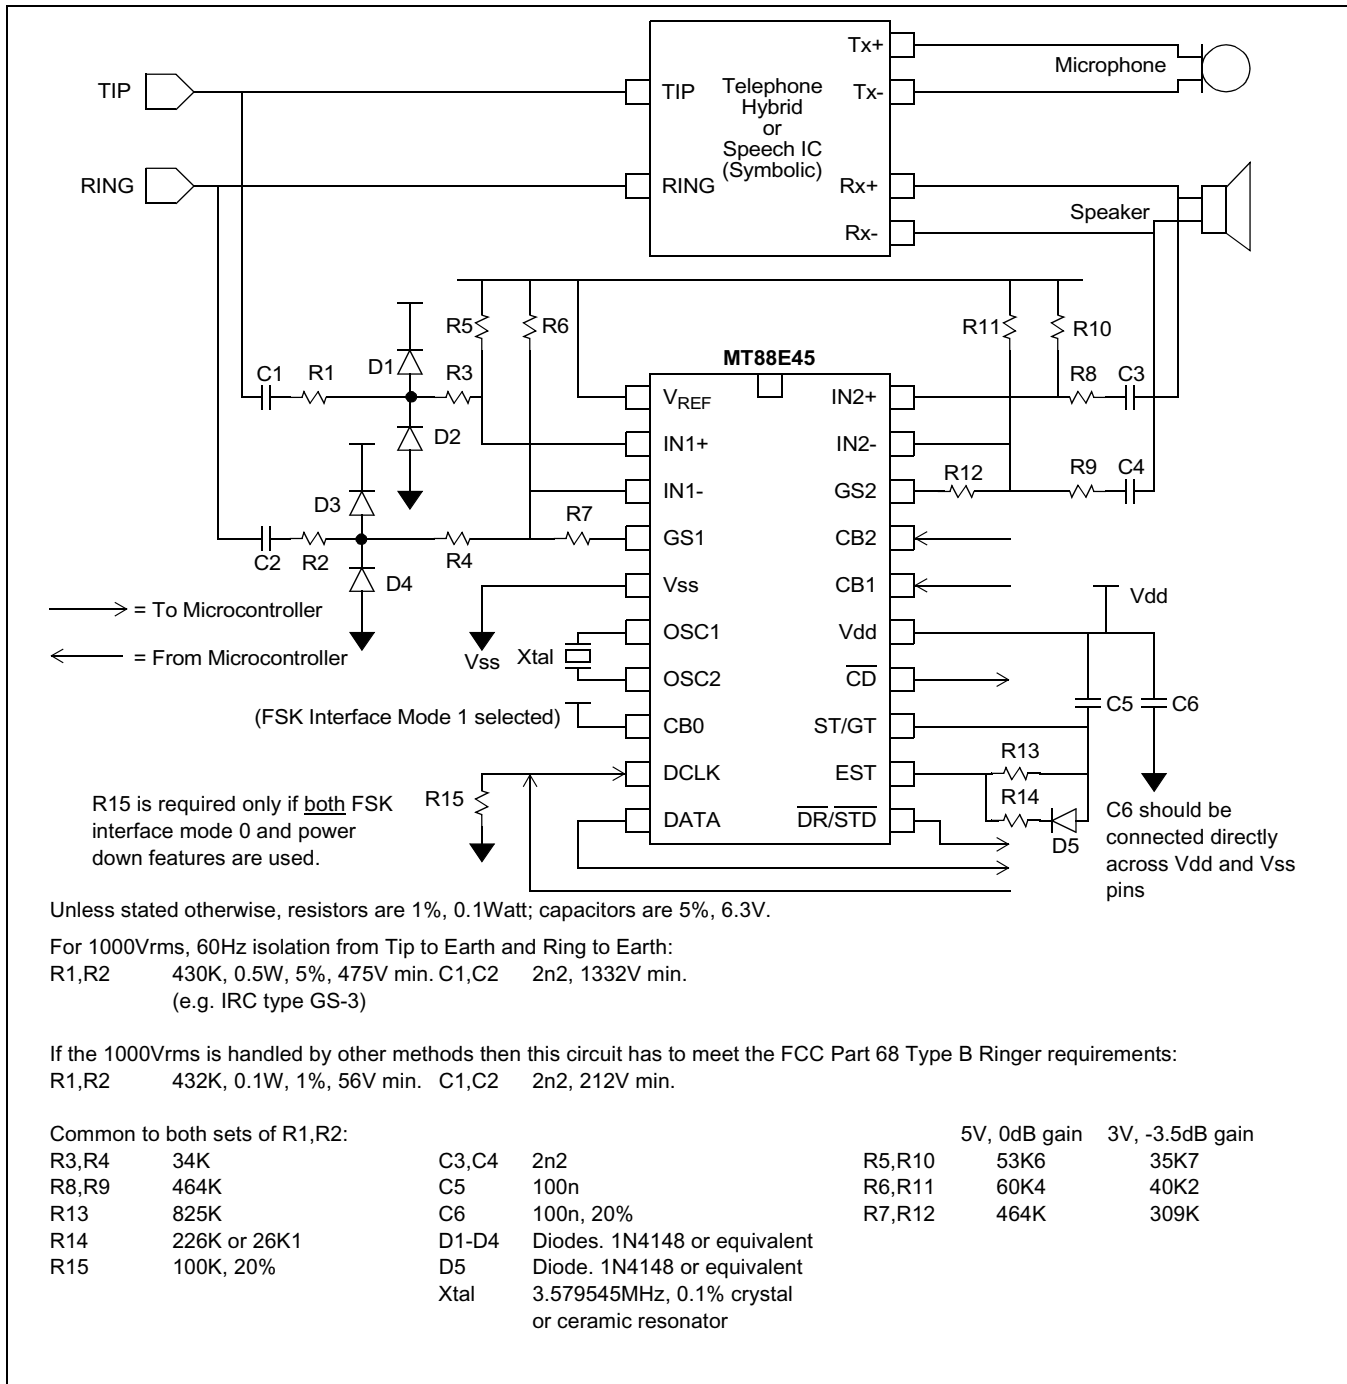

Figure 7 - Application Circuit: Bellcore MEI Compatible Type 2 Telephone
In power down mode both input op-amps,  $V_{REF}$  and the oscillator are non functional. DCLK becomes an input because to select the power down state CB0 is 1 which will select FSK interface mode 1. If the application uses FSK interface mode 0 and the MT88E45 needs to be powered down then a pull down resistor should be added at the DCLK pin to define its state during power down (R15 in Figure 7). When the MT88E45 is powered down DATA,  $\overline{DR/STD}$ , CD are high; EST and ST/GT are low.
- For the GS1 op-amp, start with the 0dB gain setting resistor values of  $R_{5_{0dB}}$ ,  $R_{6_{0dB}}$  and  $R_{7_{0dB}}$ . In Figure 7 these values are 53K7, 60K4 and 464K respectively. Keep C1,C2,R1,R2,R3,R4 as in Figure 7 to maintain the highpass corner frequency constant for all gain settings.